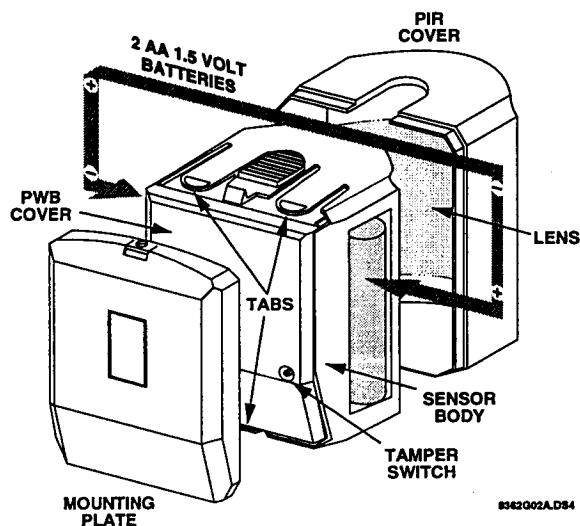

Figure 7. PIR Components, Battery Locations, & Tamper Switch
2. Remove the cover by depressing the two tabs on the top and the one tab on the bottom of the sensor body and sliding the cover off (see Figure 7).
When battery replacement is necessary, observe proper polarity (as shown in the battery compartment) when installing the new battery, or the sensor may be damaged. Be sure to note that as you look at the battery compartment, on the left side the positive side is down and on the right side the positive end is up. When the battery is replaced, wait at least 3 minutes after installing the battery before activating the walk test mode. See Figure 7 for battery locations.